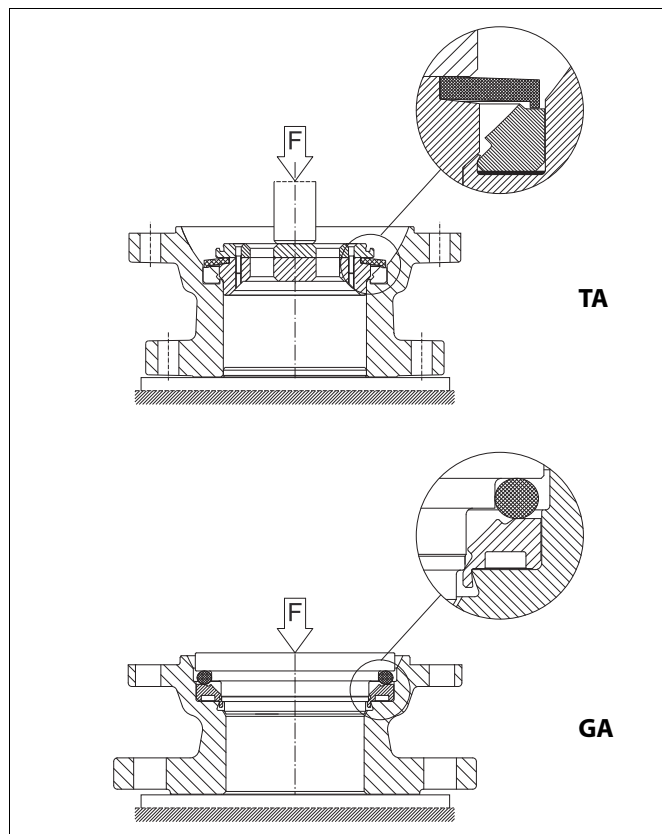

Fig. 26 Locking of the seat
- ❑ Mount the locking tool carefully over the seat, see Fig. 26.